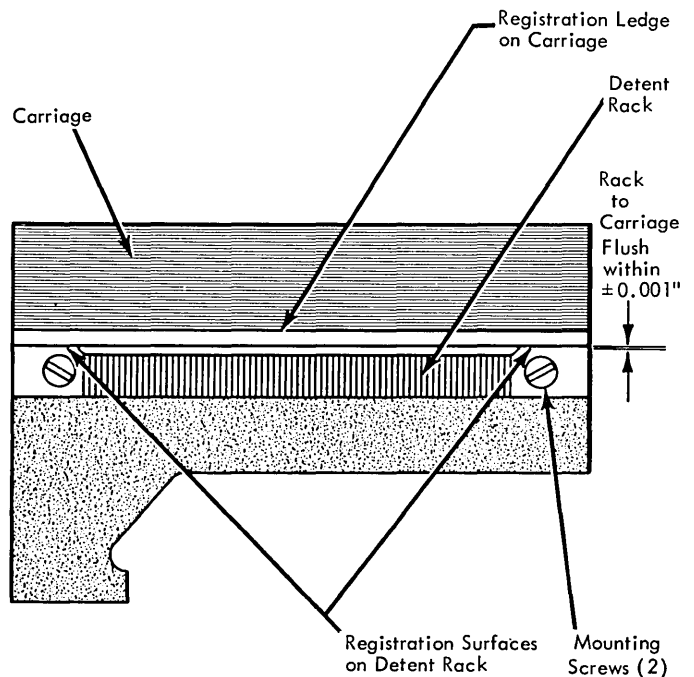

Figure 7-5. Detent Rack, Removal and Replacement
2. Remove two binding-head mounting screws that secure detent rack (Figure 7-5) to the carriage.
1. Place detent rack in position shown in Figure 7-5. Press upward on rack to ensure contact between registration surfaces on detent rack and registration ledge on carriage. (Refer to section 7.7.4 for details of adjustment.)
NOTE: The detent rack (Figure 7-5) is adjusted during replacement and should never be loosened or readjusted after it is initially installed on the carriage.